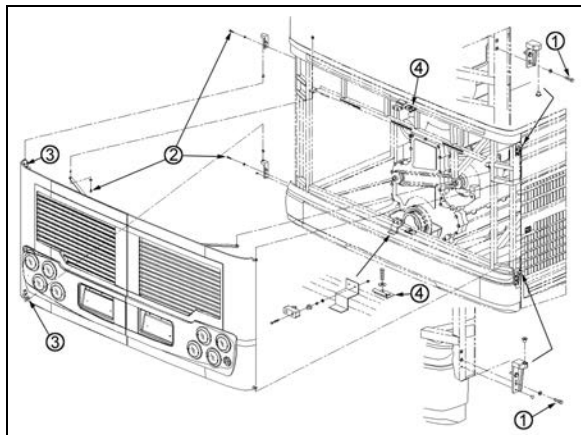

FIGURE 28: ENGINE COMPARTMENT DOORS 18633
1. Loosen the bolts, (1, 2 Fig. 28) holding the hinge to the vehicle structure to shift the door "UP or DOWN".
2. Loosening the bolts (3, Fig. 28) allows the door to be shifted "LEFT or RIGHT" and "IN or OUT".
To adjust the latch mechanism (4, Fig. 28) and the striker pin: